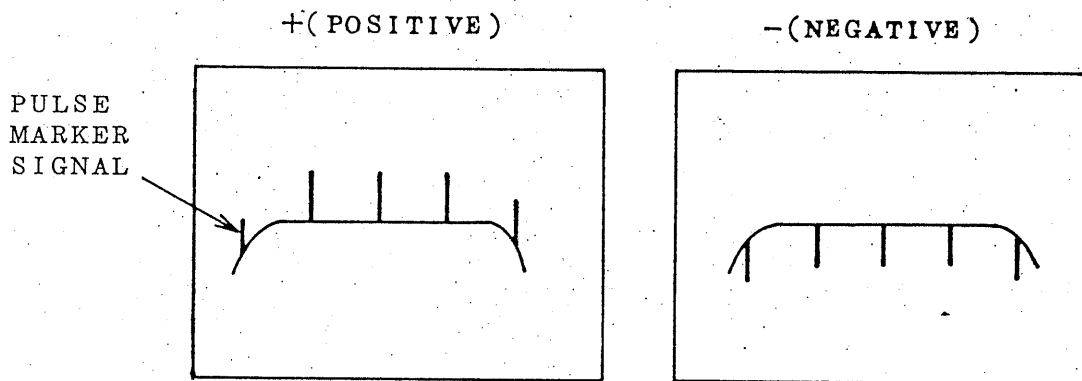

Fig. 1
Set (6) INTEN MODU, PULSE MARKER selector switch on the rear panel in the PULSE MARKER state and apply a pulse marker signal to (14) INTEN MODU OR PULSE MARKER INPUT terminal on the front panel. With a marker signal input voltage of 1 Vp-p or over, a marker signal with a deflection amplitude of 1 DIV or over is displayed on the CRT screen. The displayed pulse marker amplitude is adjustable with (7) AMPLITUDE knob on the rear panel. The polarity of the displayed pulse marker is selectable with (8) POLARITY switch as shown in Fig. 1.